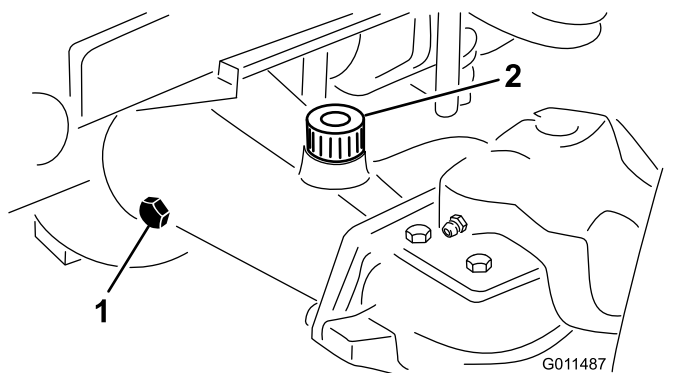

Figure 17
2. Remove a check plug from one end of the axle and ensure that the lubricant is up to the bottom of the hole (**Figure 17**).